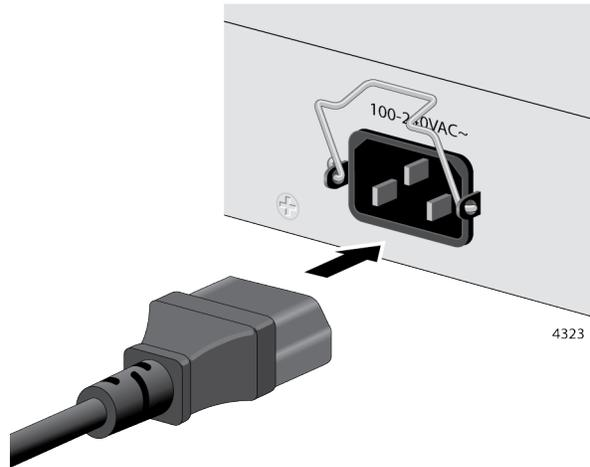

Figure 38. Plugging in the AC Power Cord
3. Connect the power cord to the connector. See Figure 38.